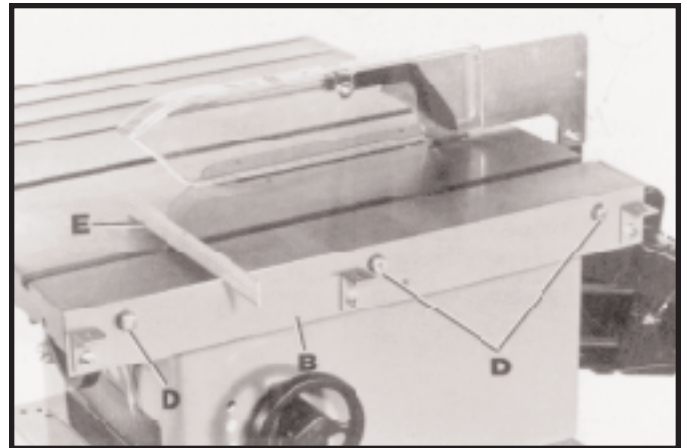
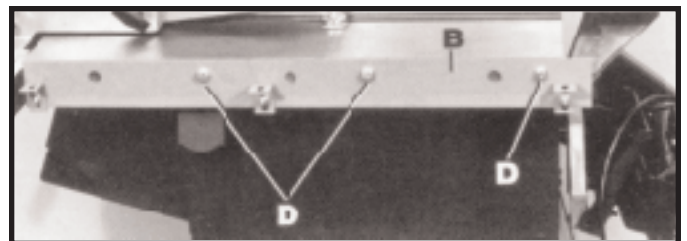

Fig. 9
Fig. 10
2. Assemble table adapter plate (B) Fig. 9, to the right side of the saw table using three 7/16-20 x 1 inch-long hex head screws (D) and lockwashers. NOTE: Before tightening screws (D), place a straight edge (E) on the saw table, and make certain the top of adapter plate (B) is level with or slightly below the surface of the saw table. Also, make certain the front of adapter plate (B) does not extend out past the front edge of the saw table. IMPORTANT: FOR DELTA SAWS ONLY, PROCEED WITH SECTION ASSEMBLING UNIFENCE TABLE TO SAW .
3. Assemble table adapter plate (B) Fig. 10, to the right side of the saw table as shown using three 3/4 inch screws, lockwashers and hex nuts (D), (not supplied). IMPORTANT: If the pre-drilled holes in adapter plate (B) do not line up with the holes in the saw table, new holes must be drilled in adapter plate (B) and/or saw table. NOTE: Do not drill any hole to fasten adapter plate (B) Fig. 10, to the saw table that will be located less than two inches from either end of the adapter plate.
4. Before tightening three screws (D) Fig. 10, place a straight edge on the saw table and make certain the top of adapter plate is level with or slightly below the surface of the saw table, refer to Fig. 9. Also, make certain front of adapter plate (B) Fig. 10, does not extend out past the front edge of the saw table.